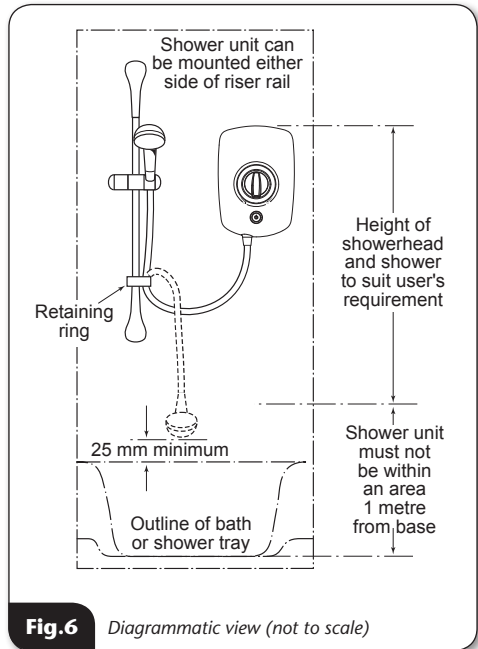

Fig.6 Diagrammatic view (not to scale)
- Refer to **(fig.6)** for the correct siting of the shower. Position the unit where it will **NOT** be in direct contact with water from the showerhead. Position the shower unit vertically.
IMPORTANT: Water regulations (fig.6)